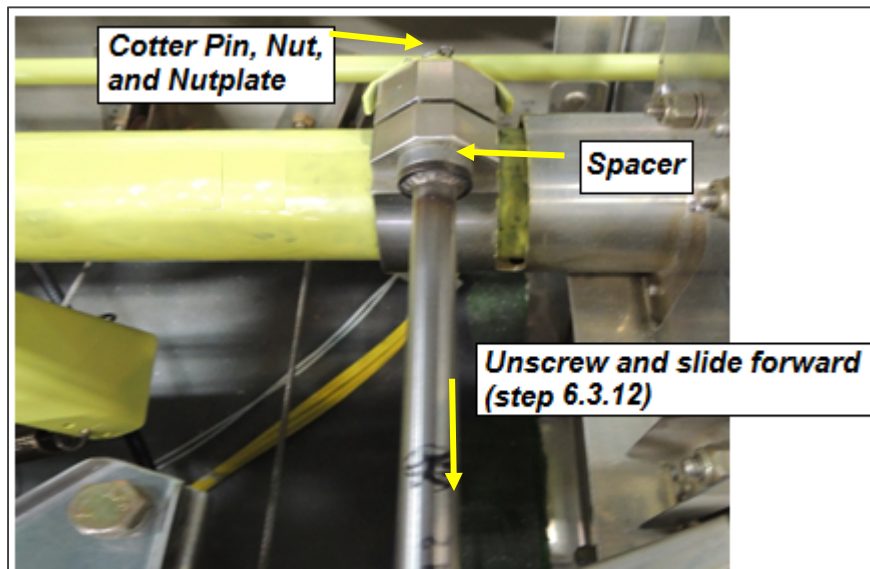

Figure 8. Friction Control Disassembly
6.3.12 Remove the friction hardware and rod assembly (Figure 8).
- 6.4.16 Reinstall the friction assembly (Figure 8).